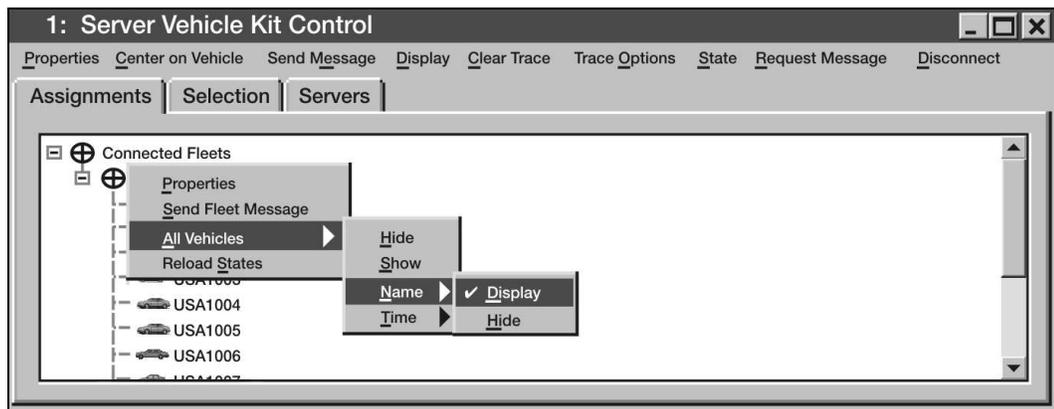

Figure 3-118. Display/Hide Entire Group of Vehicles
- g. Hide/Show entire control groups (see Figure 3-118).
- (1) Right click on the map to get the pop up menu.
- (2) Choose Select Vehicle.
- (3) Click on the map so that the Server Vehicle Kit Control Window pops up.
- (4) Select Assignments tab. The various control groups will be listed with expandable plus boxes next to each one.
- (5) Right click on a Control Group (for example: 001, 002, 003, and so forth) and select All Vehicles Hide. If a control group is already hidden, to show it, simply select All Vehicles Show.